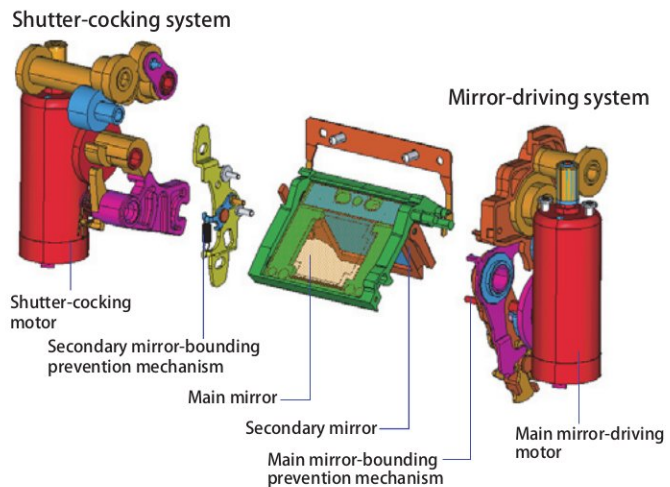

Fig. 020 Two-motor system
- Two-motor system. One motor dedicated to driving the mirror, and one motor dedicated to cocking the shutter in high-speed (Fig. 020).
- A stopper is incorporated to prevent the bounding of the main mirror and secondary mirror (Fig. 020). This results in shorter viewfinder blackout and a stable viewfinder image during continuous shooting.